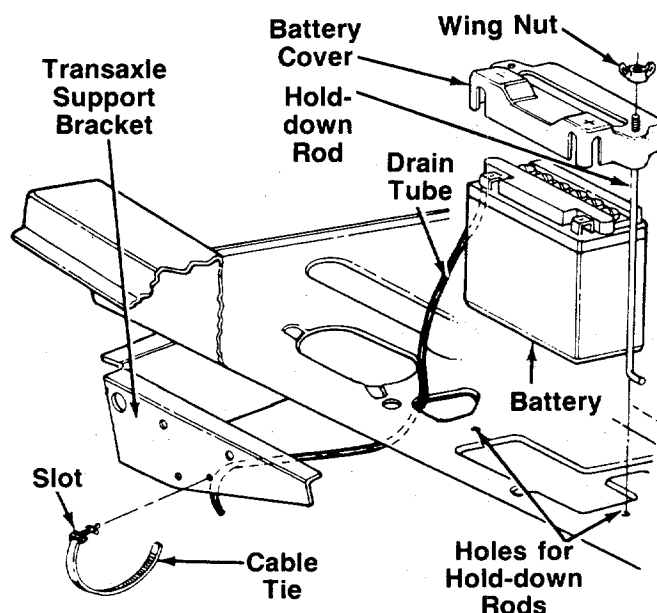

FIGURE 15.
5. Secure the battery in place with battery cover and hold-down rods. Secure with two wing nuts. See figure 15.
6. Route the clear plastic drain tube down through the hole in the frame, next to the engine drain plug, shown in figure 15.
7. Push the locking end of cable tie through the hole in transaxle support bracket. See figure 15. Place the end of cable tie through the slot so a loop is formed around the drain tube to secure it. Tighten cable tie and cut off excess end.